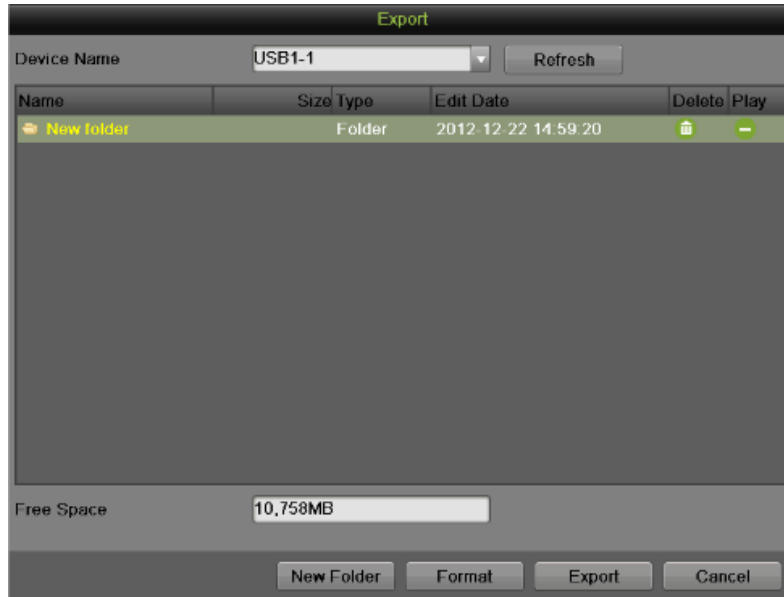

Figure 71 Files Backup Menu
4. Click the Export button; this will take you to the Export menu, as shown in Figure 71.